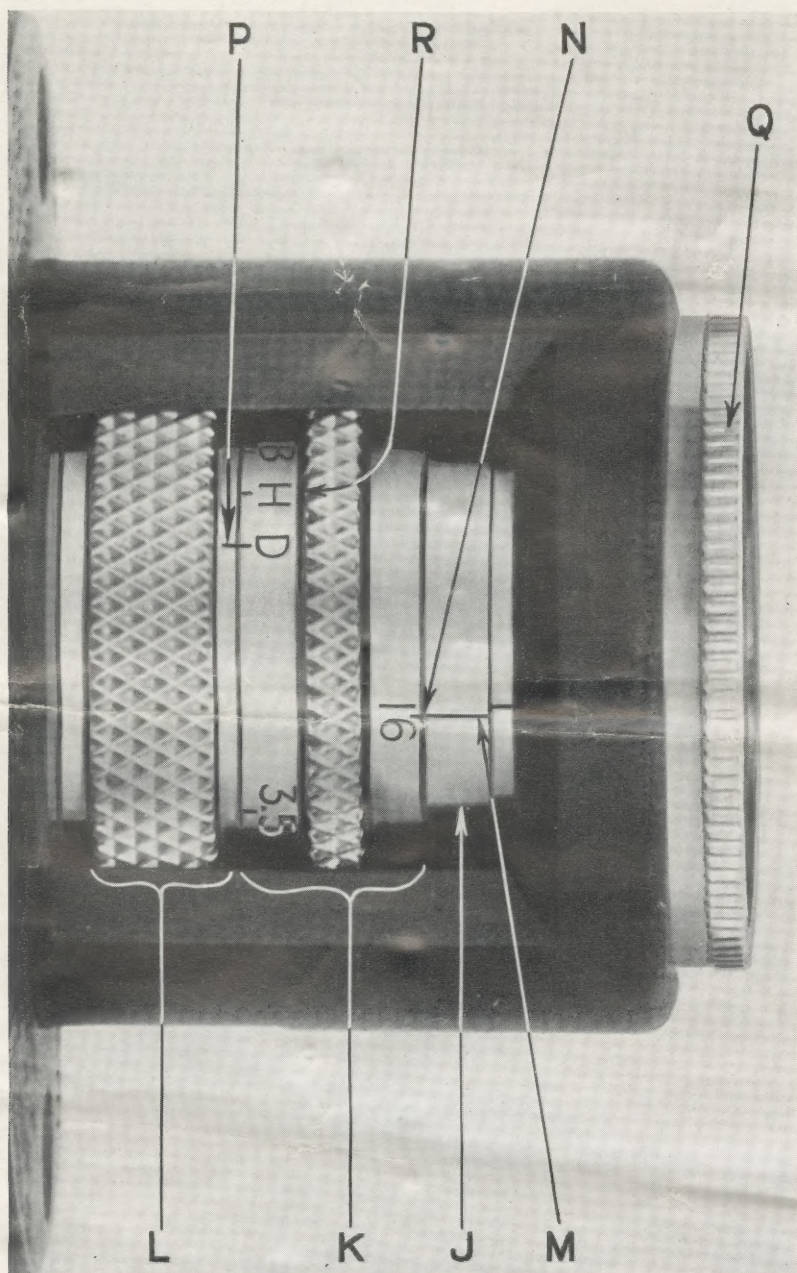

Figure 4
These adjustments are effected with three collars on the lens, J, K, and L, Figure 4. Collar J is fixed, and bears a single index mark, M, Figure 4. Collar K rotates and bears the camera speed index figures (16, 32, 64) on its forward edge, N, Figure 4, and the exposure index symbols, B, H, D, and F 3.5, on its rear edge, R, Figure 4. Collar L also rotates, bearing a single index mark, P, Figure 4.
To set the lens for camera operation at 16 frames per second under dull lighting conditions, for example (as shown in Figure 4), rotate Collar K until the index mark for 16 (N) is opposite the index mark (M) on the stationary collar J. Then rotate collar L until its index mark (P) is opposite the index mark for the symbol D (dull) on collar K.
The amber filter, Q, Figure 4, which is screwed into the front of the lens, should not be removed except for cleaning. It should be left in position at all other times, for the lens adjustments are calibrated to compensate for the increased exposure required when a fil-